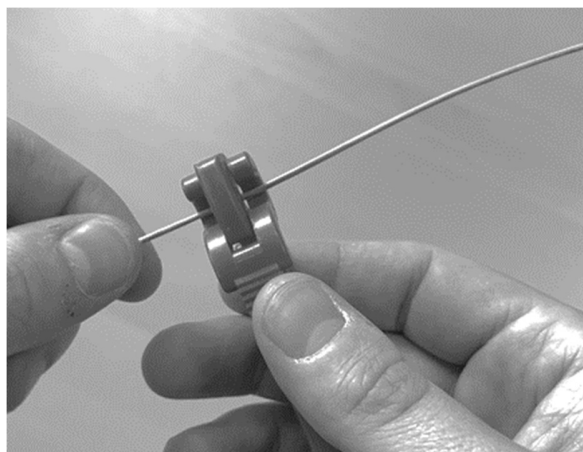

Figure 12 - Score the buffer tubes
4.12 Consult the splice closure instructions to determine the length of fibre that must be exposed. Use the recommended Miller FTS buffer tube scorer to score the buffer tubes (Figure 12) at the required length. **Make only one revolution around the tube.** The tube should be scored rather than cut. When removing a long length of tube, it is necessary to remove the tube in 300 mm to 400 mm sections. Do not remove sections greater than 400mm as this may result in fibre damage.